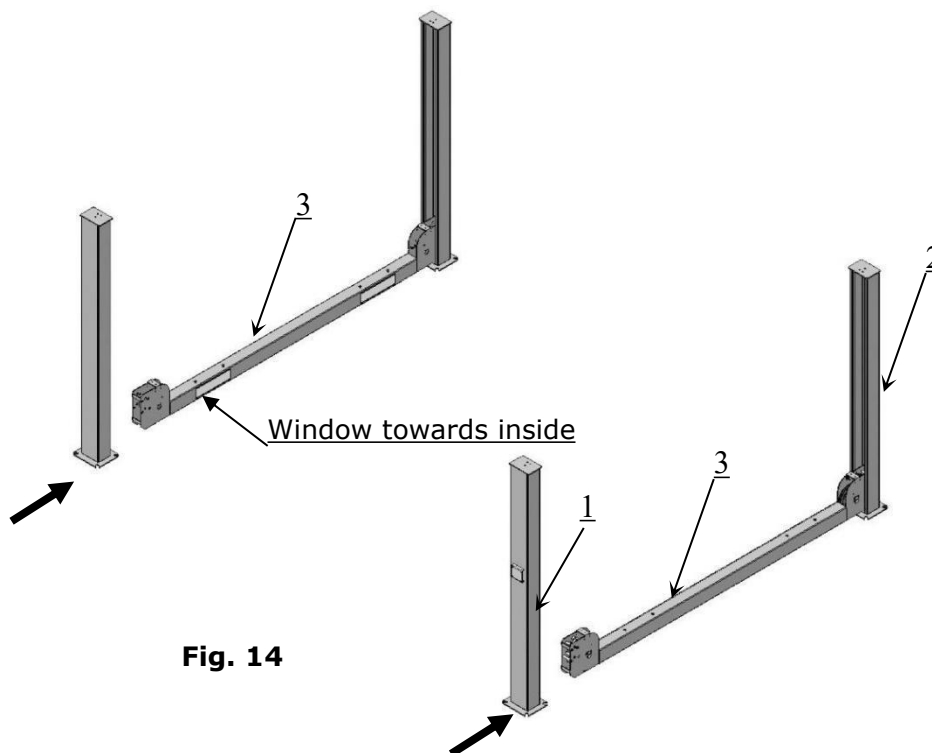
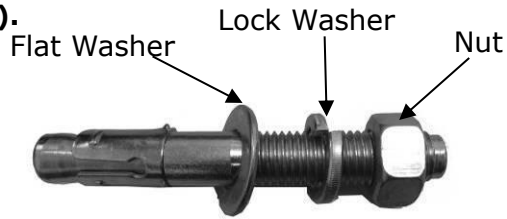

Fig. 14
Fig 15
D. Install Cross Beams (See Fig. 14, Fig. 15).
1. Prepare the Anchor Bolts (See Fig. 15).